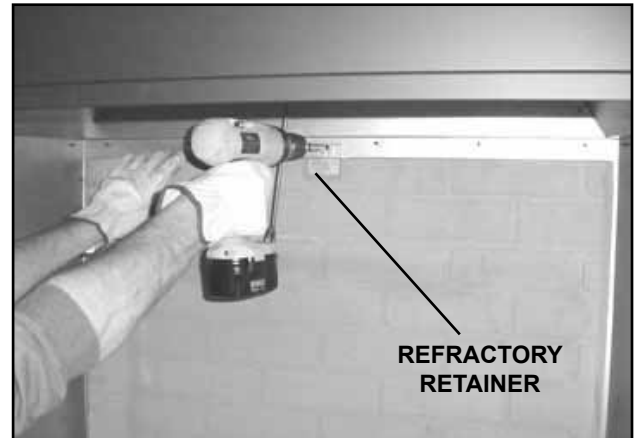

Figure 7.12 Attach Back Refractory
- Fasten in place with the refractory retainer and screws provided. See Figure 7.12.